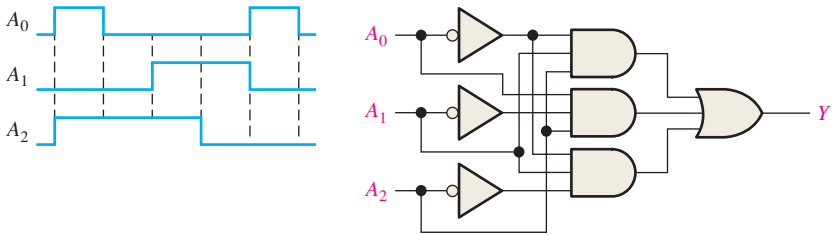

FIGURE 6–76
18. Solve Problem 17, given that an active-LOW (0) output is required.
20. If the input waveforms are applied to the decoding logic as indicated in Figure 6–76, sketch the output waveform in proper relation to the inputs.